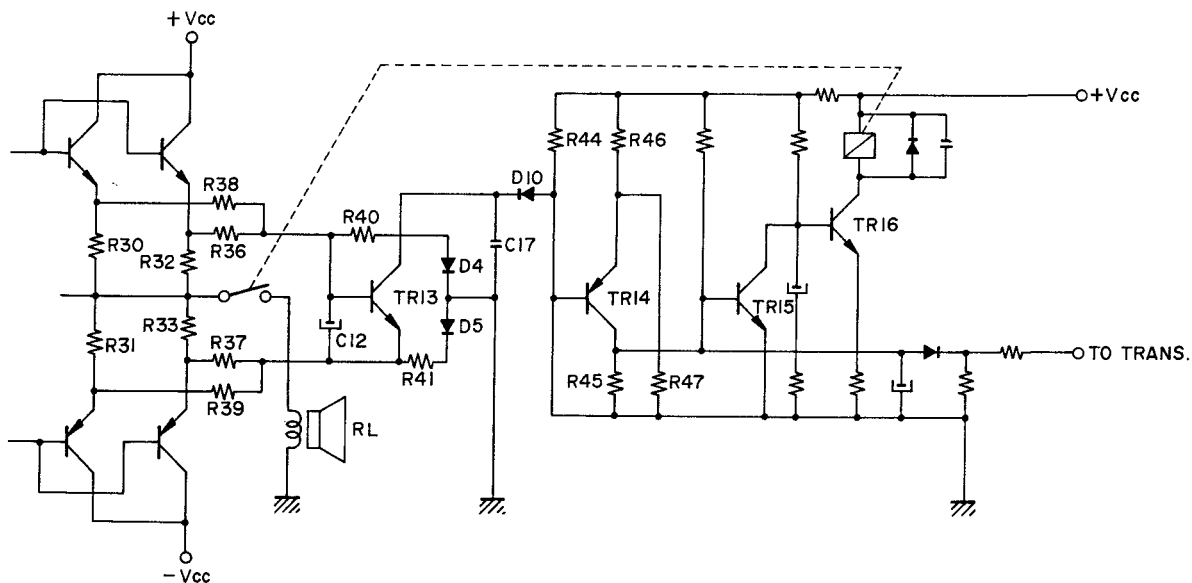

Fig. 9 Overcurrent Detection Circuit
4. Overcurrent Detection Circuit (Refer to Fig. 9)
This is prevented by the circuit in Fig. 9.